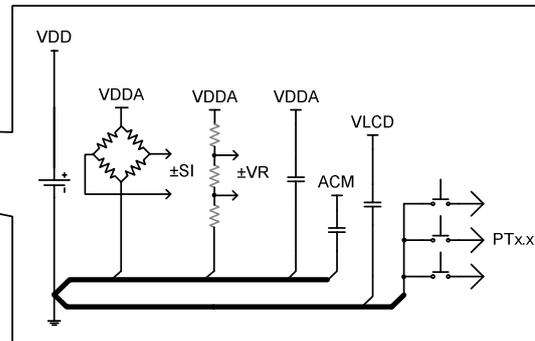

Figure 2
2.1.1. Analog and digital signal must use VSS grounding to isolate and layout independently, as shown in Figure 2